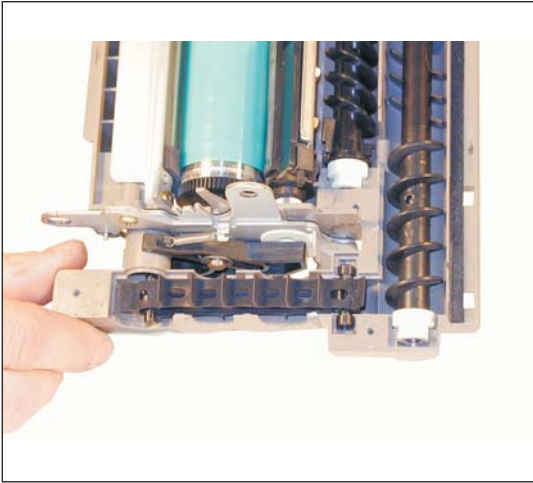

Figure 43
32) Install the auger drive belt and paddle wheel. See Figures' 42 & 43 (See figure 43 on next page)